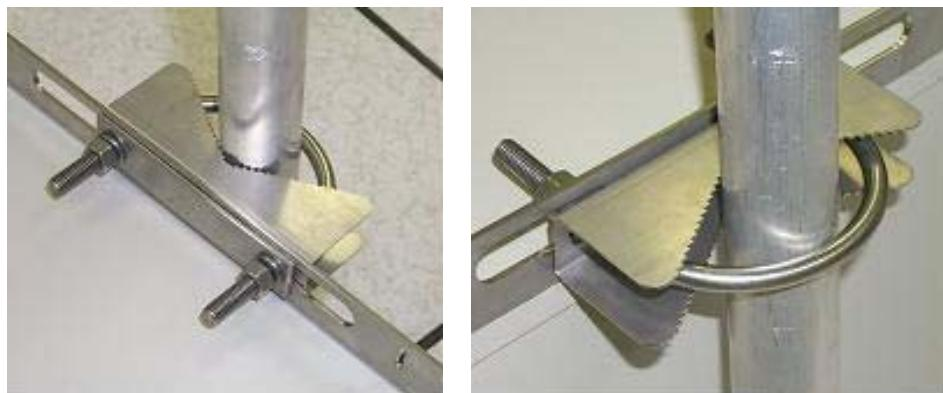

Figure 122: Detail of pole mounting
- a. attach the V-bracket to the pole as shown in Figure 122.
- attach the V-bracket to the pole as shown in Figure 122 on Page 340.